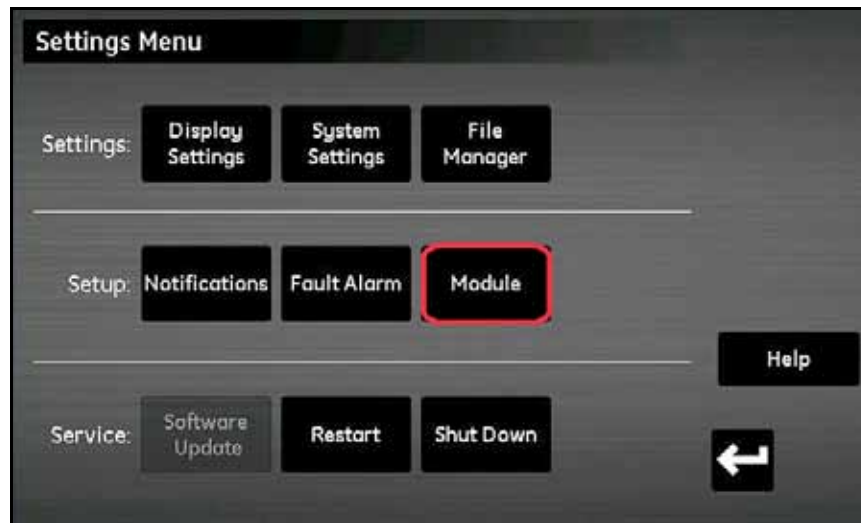

Figure 83: Module Update
4. In the Setup section, tap the Module button (see *Figure 83* below).